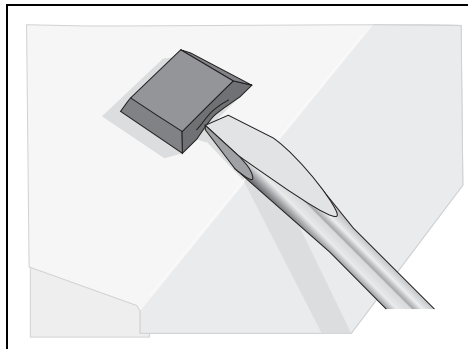

Figure 9. Removing the Feet
2. If they have been previously installed, remove the self-adhesive rubber feet from the bottom of the switch, as shown in Figure 9 using a flat-head screwdriver.